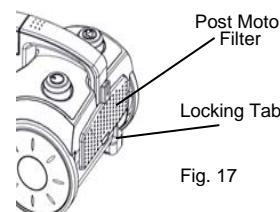

Fig. 17
1. Lift the locking tab of the post motor cover remove cover. (Fig 17)